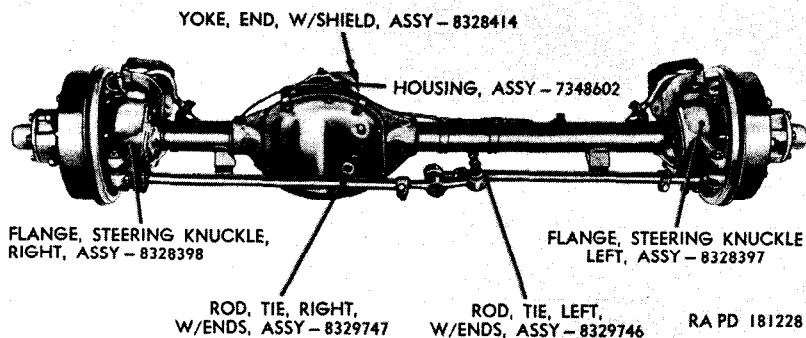

Figure 92. Front axle assembly.
a. General. The front axle (fig. 92) is a driving unit with hypoid type driving gears and spherical steering knuckles. The front axle is composed of the housing, end yoke assembly, the differential assembly, tie rod assemblies, axle shafts and universal joint assemblies, and steering knuckle flange assemblies. The drive is of the full-floating type, through axle shafts built integral with constant velocity universal joints which revolve in the steering knuckle flanges.